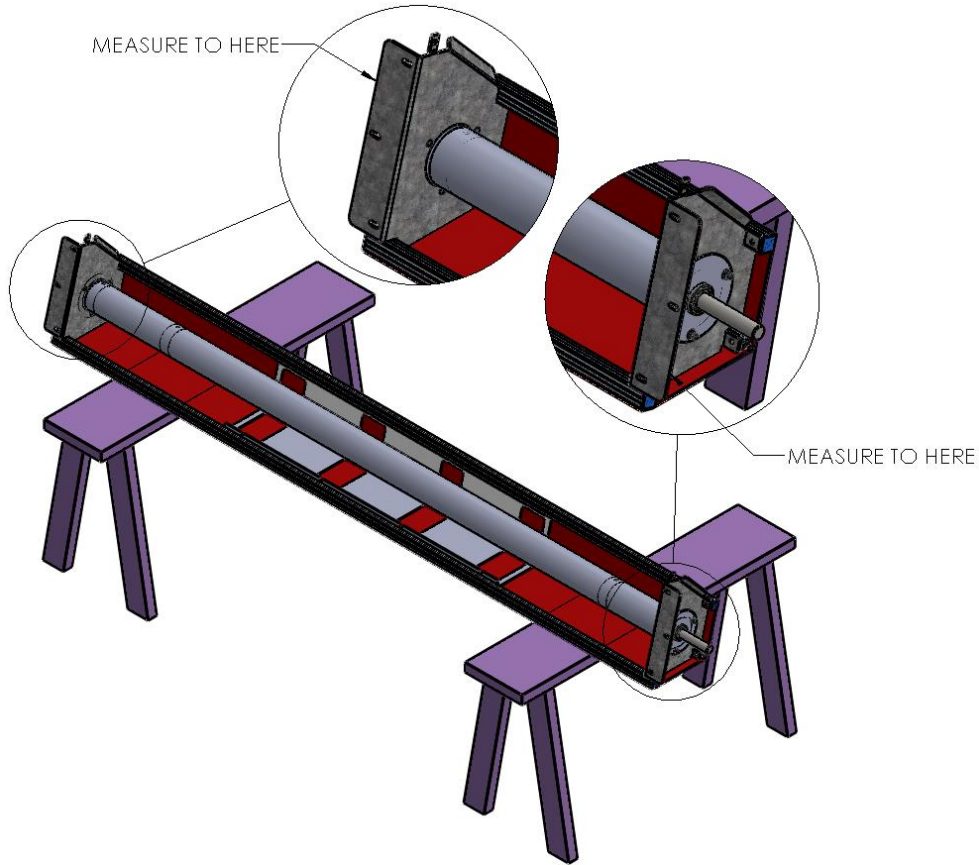

Figure 2 MEASURE DOOR WIDTH
2. Place the G2 Door Roll Header Assembly across a safe and level work surface, then rotate the roll assembly frame so that the Header Bracket mount flanges are facing upward. (Figure 2 MEASURE DOOR WIDTH).
3. Measure the entire width of the Roll Header Assembly from the outermost edge of one Header Bracket mounting flange to the outermost edge of the opposite side. (Figure 2 MEASURE DOOR WIDTH)